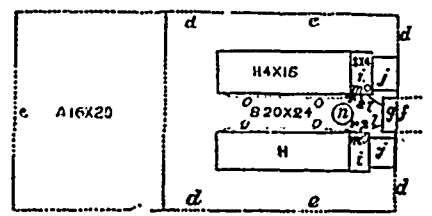
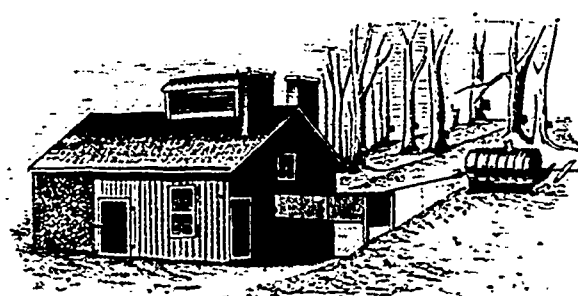

Fig. 2.
Fig. 1.
The gathering cask, figured and described last year, and shown again in fig. 1, seems best adapted of anything for the work to be done. It is simply a cask 5 feet long and about two feet in diameter, fastened firmly to a "box sled," large end behind, the front end a little the higher, so that when the sled stands level, the sap will all flow from a faucet in the rear, through a tin conductor
with a funnel-shaped "head" down the slope, into the store trough below, as shown in fig. 1. The sap need never be lifted but once, or dipped or rolled up skids in barrels at all. It is poured down into the gathering pail from the bucket which hangs at the tree, and is not removed from the spout in emptying. It must be lifted a little and poured into the funnel of the gathering cask, and that is all. After that, by taking advantage of a slope, it will run into the store trough, and thence into the boiler without further labor.
3. The sugar-house, its location and its arrangement. The former is indicated in fig. 1. The sugar-maple seldom grows spontaneously except on ground that is somewhat rolling; and in almost every sugar camp can be found side-hill advantages in a sufficiently central location. If the slope is not as steep as that represented in the cut, a longer conducting tube must of course be used,
so that the gathering cask can stand far enough off up in the slope to bring it to the required level. In hilly New-England there is usually no trouble on this point; but even there, I have seen sugar-houses on level ground near a fine slope of which they took no advantage. And in Ohio, until within a few years ago, such was the common custom. The store trough stood on a level with the "arch," the barrels were laboriously rolled up two skids and emptied into the trough, and then the sap was lifted, painful after painful, and poured into the kettles or pans. Men are strangely slow in learning to take advantage of gravitation and the other forces of nature, even when she seems daily to thrust them before our very eyes. Fig. 2 gives the ground plan of the sugar-house seen in perspective in fig. 1. It is planned for two arches, so that one man can boil the from 2,000 or 2,500 buckets. It will be understood from a brief description, if figs. 1 and 2 are both kept before the eyes. A, is the woodshed; B, the boiling-room; H H, the evaporators, set on brick arches; I I, heaters running a foot below the level of the evaporators, and perforated like the tubular boiler of a steam engine, so as to send the flame through these tubes (horizontal cylinders), which are surrounded with cool sap, and thus economise heat that would otherwise waste up the chimney; J J, are the chimneys; g f, store-trough (compare fig. 1); l l (curved dotted lines), flexible rubber tubes, conveying sap from store-trough to heaters; m m, self-regulating sap-feeders; n, tall receiving can for syrup; r r, stopcocks for drawing off syrup; s s, siphon stopcocks for draining hot sap from heaters when desired. The tops of the siphons pass through the sides of the heaters (watertight) on a level with the bottom of the store-trough, and run outside below the bottom of the heater, so that when the sap is above that level the siphons will start when the stopcock is open, and flow till the heaters are drained dry. o o are the tubes feeding hot sap from the heaters into the front end of the evaporators; e d d d are doors, and e e are windows. The self-regulating sap feeders are Guild's patent, and are usually furnished with the evaporators.